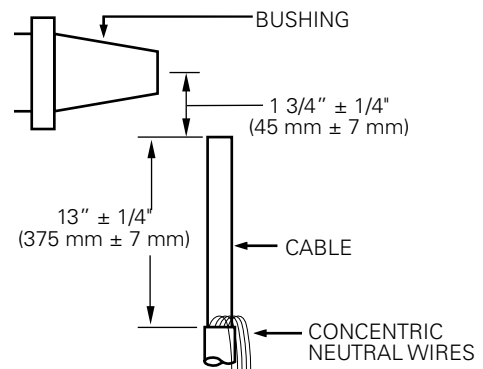

Figure 3. Line illustration of removing concentric neutral wires.
- Measure 13" (330 mm) from end of cable. (Refer to Figure 3.)
- If unjacketed neutral cable, bind neutral wires using (3) wraps of tape at 14 3/4" dimension.